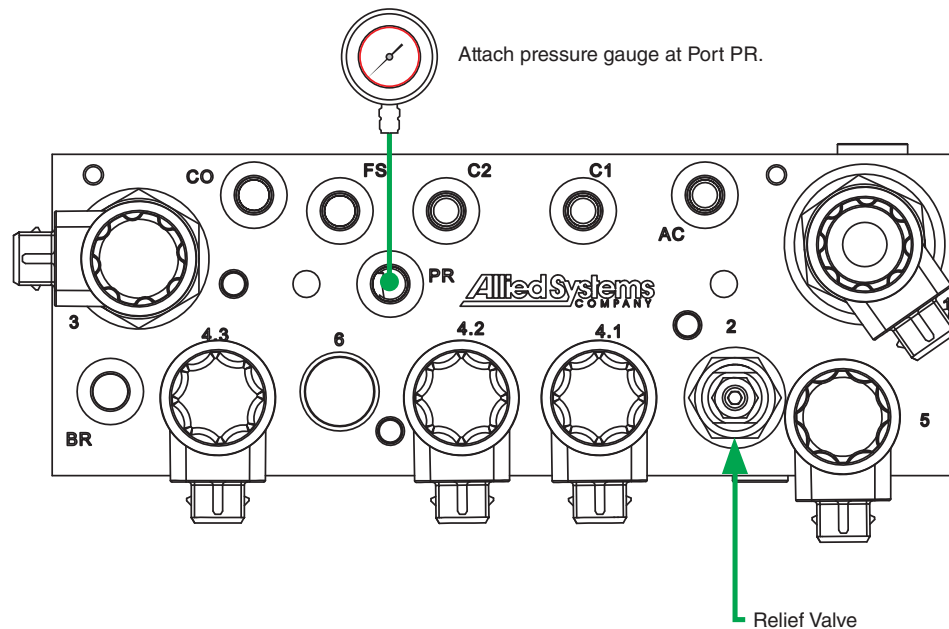

Figure 2-18 Relief Valve Adjustment
1. Locate the manifold (see Figure 2-16) and then identify the relief valve (see Figure 2-18).
1. Improper setting at the relief valve (see Figure 2-18).